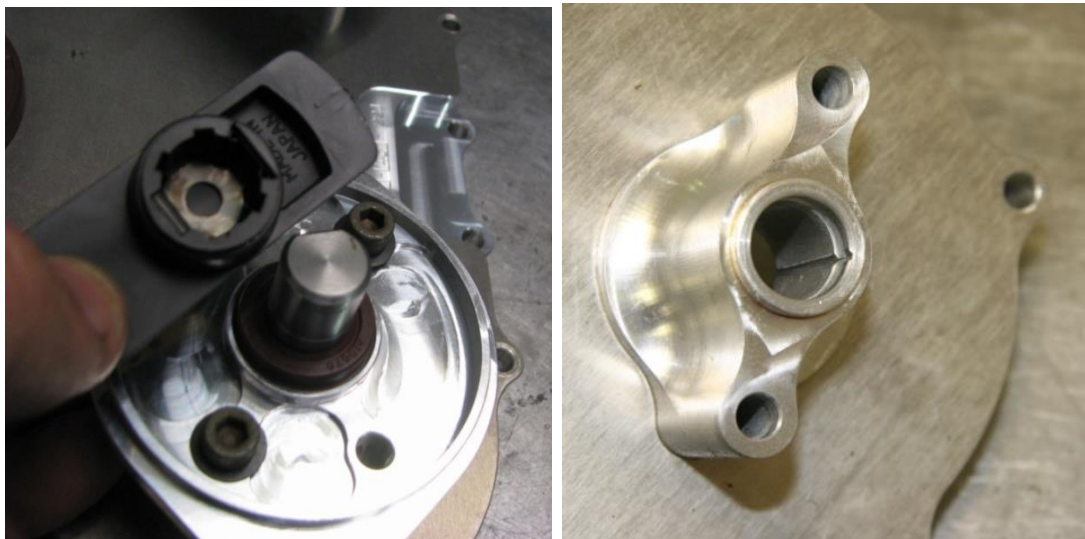

Figure 156 – New Distributor Shaft Bush Fitted – nopic x 1
- Glue the distributor rotors to the shafts using **24hr Araldite** mixed with a suitable filler (such as cotton flock) as shown in Figure 156.
- New bushes must be fitted to the distributor housings as shown in Figure 156. Distributor posts must be generously lubricated with Nulon L90 or grease.